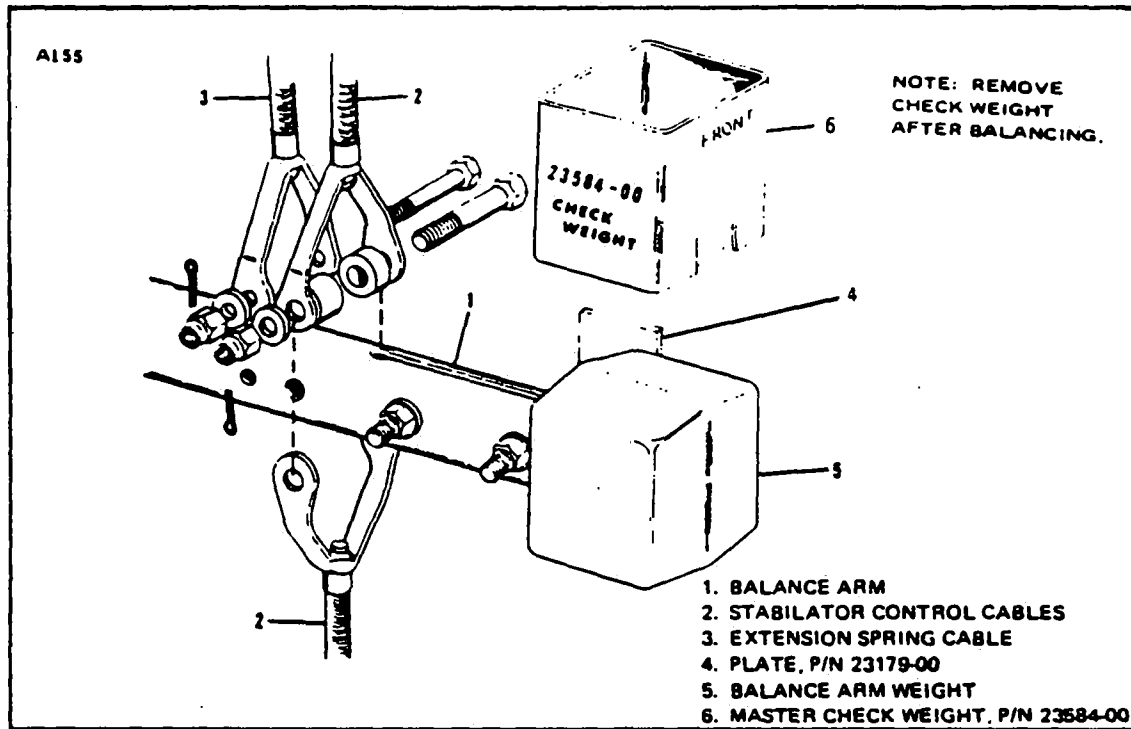

Figure 4-11. Balancing Stabilator, Serial Nos. 30-1 to 30-852 incl.,
**4-49. CHECKING AND BALANCING STABILATOR.** (Serial Nos. 30-1 to 30-852 inclusive; 30-854 to 30-901 inclusive; 30-1717; 30-1745 to 30-2000 inclusive.) (Refer to Figure 4-11.)
b. Stabilator installation must be complete before balancing, including tabs and paint. Stabilator control cables (2 and 3) must be disconnected from stabilator balance arm (1) and tab actuator arm must be disconnected from stabilator tab horn during balancing. Hardware used to connect the extension spring cable and stabilator control cables should be removed. Hardware holding balance arm weight in place should be installed. A small piece of tape should be used to hold tabs neutral with stabilator. It is very important to have the stabilator free to rotate with a minimum of frictional resistance.
- c. Master check weight (6) (P/N 23584-00) (weight 1.58 pounds) should be placed on top of balance weight (5) (P/N 23594-00) with the side marked "FRONT" facing forward. (Refer to Figure 4-11.) If this is not enough weight to obtain static balance with the balance arm level, plates (4) (P/N 23179-00) must be added to the forward balance weight attaching bolt until 100% static balance is obtained or until up to two plates more than that required for balance have been added. Generally, it should not be necessary to use more than eight plates. If a total of more than eight plates is necessary to obtain balance, recheck the procedure in steps "b" and "c".
c. Master check weight (P/N 23584-00) (weight 1.58 pounds) should be placed on top of balance weight (5) (P/N 23594-00) with the side marked "FRONT" facing forward. (Refer to Figure 4-11.) If this is not enough weight to obtain static balance with the balance arm level, plates (4) (P/N 23179-00) must be added to the forward balance weight attachment bolt until 100% static balance is obtained or until up to two plates more than that required for balance have been added. Generally, it should never be necessary to use more than eight plates. If a total of more than eight plates is necessary to obtain balance, recheck the procedure in steps "b" and "c."